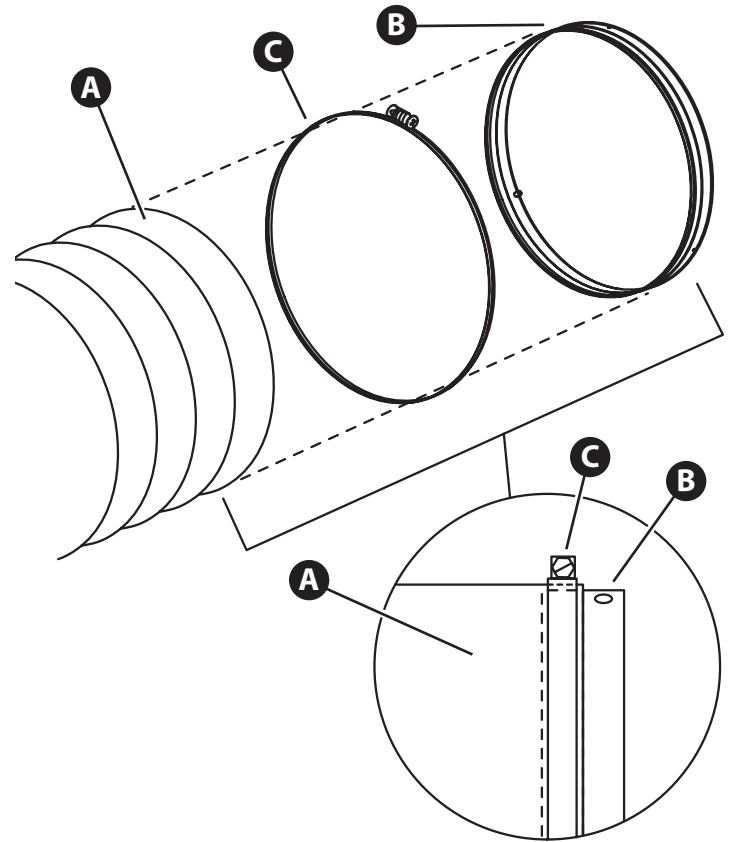

Figure 4.4
- Install the flexible ducting (A, Figure 4.4) over the connecting band (B). The flexible ducting should cover only half of the connecting band (inset), allowing the lock pins and arrows to be visible on the remaining half. Secure using a large screw type band clamp (C).